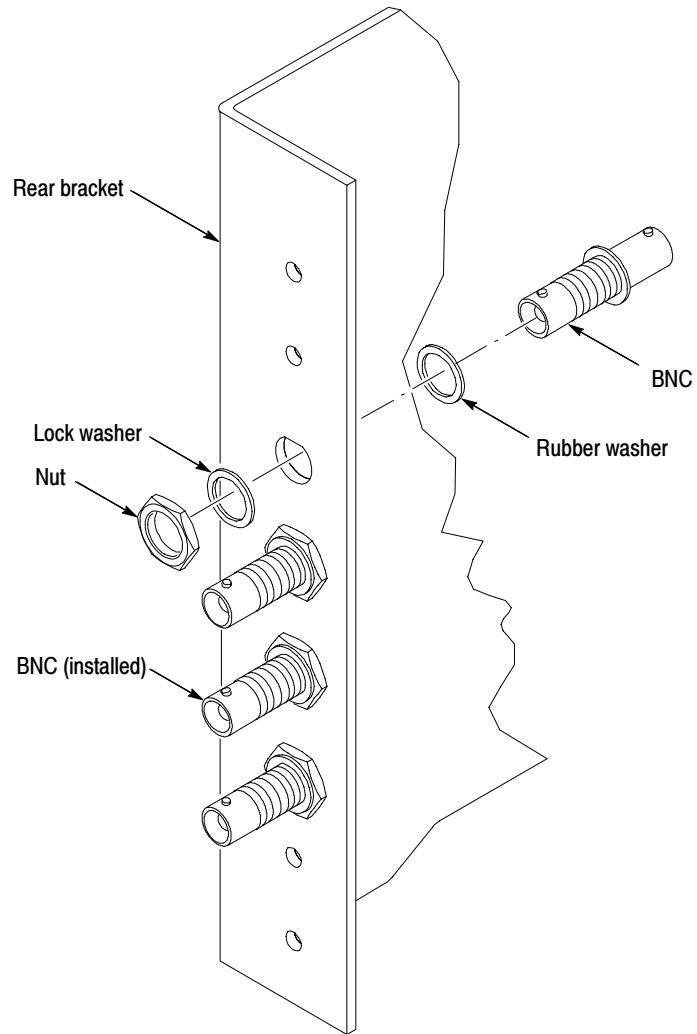

Figure 8: BNC and grommet installation (optional)
- a. *Assemble the hardware:* Unpackage and identify the BNC connector hardware in the cable feed-through kit (Tektronix part number 103-0070-XX) using Figure 8 on page 16 as a guide.